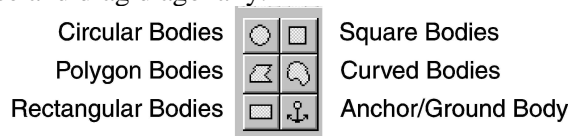

Figure 1. Rigid body toolbar.
Rigid body elements are created using the commands shown on the Rigid Body toolbar, Figure 1. These elements can be combined using the Rigid Joint, shown below, to create more complex geometry. Here is how to create a Rigid Body element:
1. Select one of the buttons on the toolbar, Figure 1.